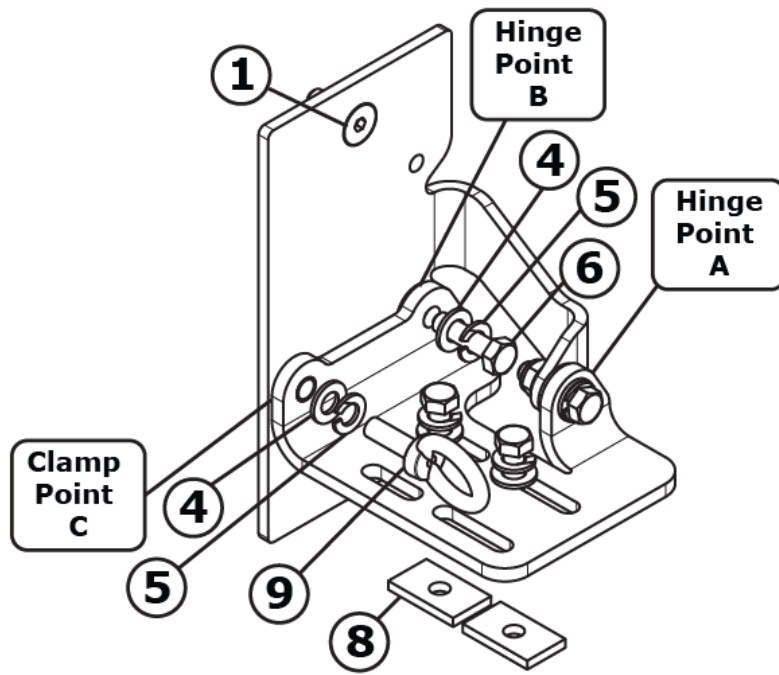
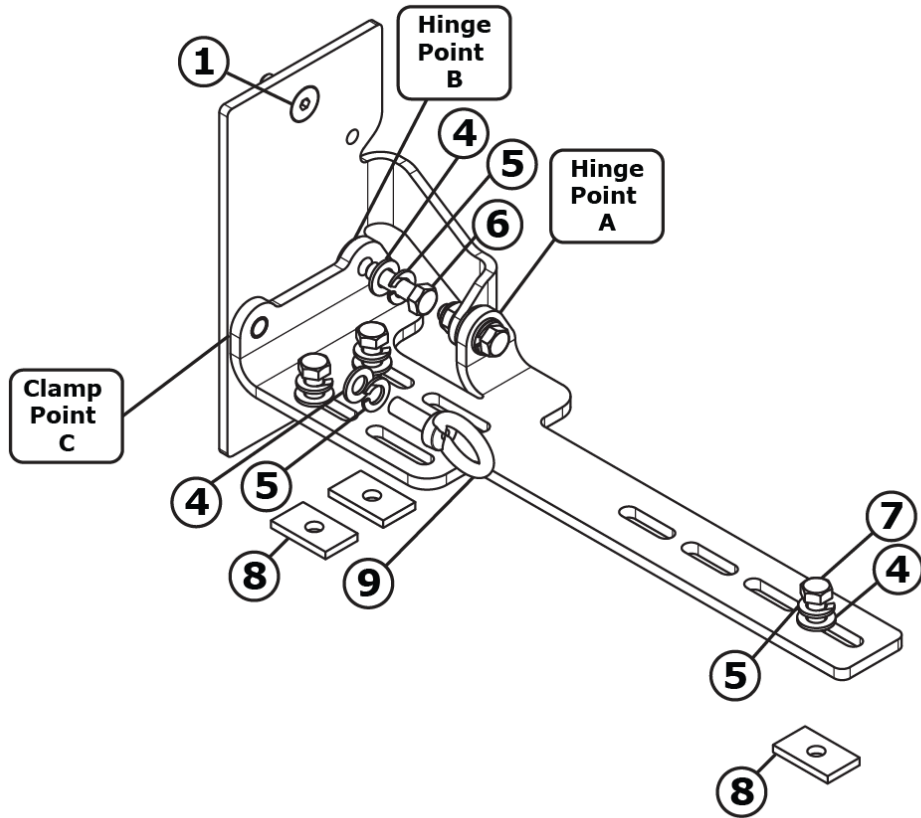

Figure 8 Fastener Placement and Parts Key for transverse roof bars or transverse platform slats/bars View 3 (above)
Figure 15 Fastener Placement and Parts Key for Longitudinal Platform Slats - View 3 (above)
10. Using either the M8 x 20mm or M8 x 16mm (Parts 7) set screws, flat washers, spring washers and slide nuts (Parts 8) fasten the Bracket Foot to the roof rack noting the configurations set out above in Figure 8 (Short Foot) and Figure 15 (Long Foot).